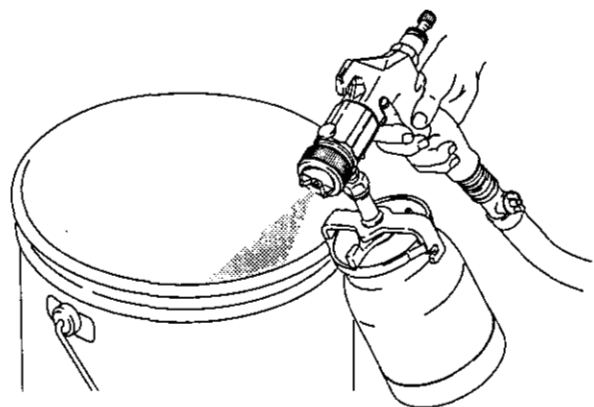

Fig. 18
6. Point the gun down into a container and flush until the solvent runs clean. See Fig. 18.